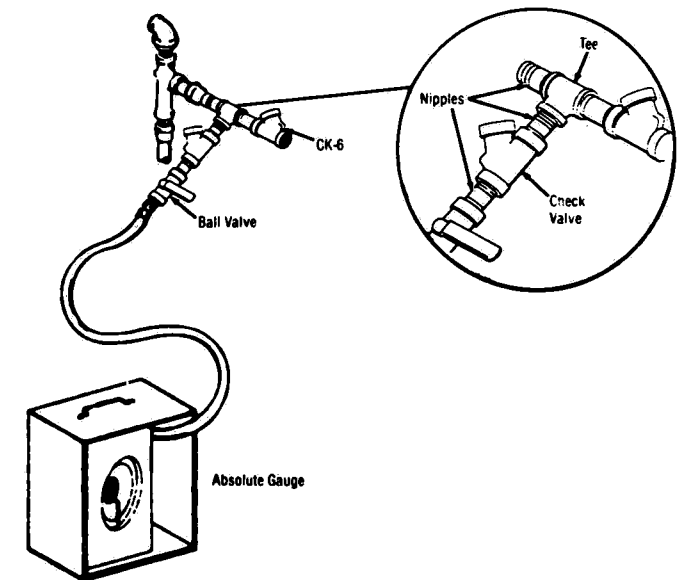

Figure 5-10. EJECTOR VACUUM TEST GAUGE INSTALLATION.
1. Connect ball valve and absolute pressure gauge between ejector and check valve (CK-6). See Figure 5-10.